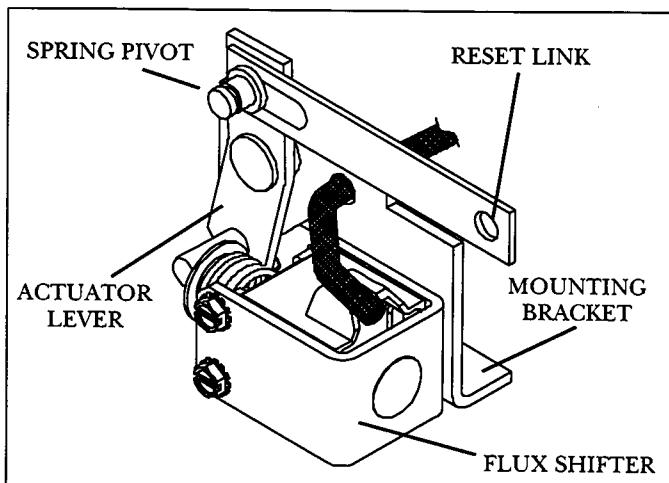

Fig. 3-1. Flux Shifter
- Replace the existing flux shifter with the new one provided (see Figure 3-1).